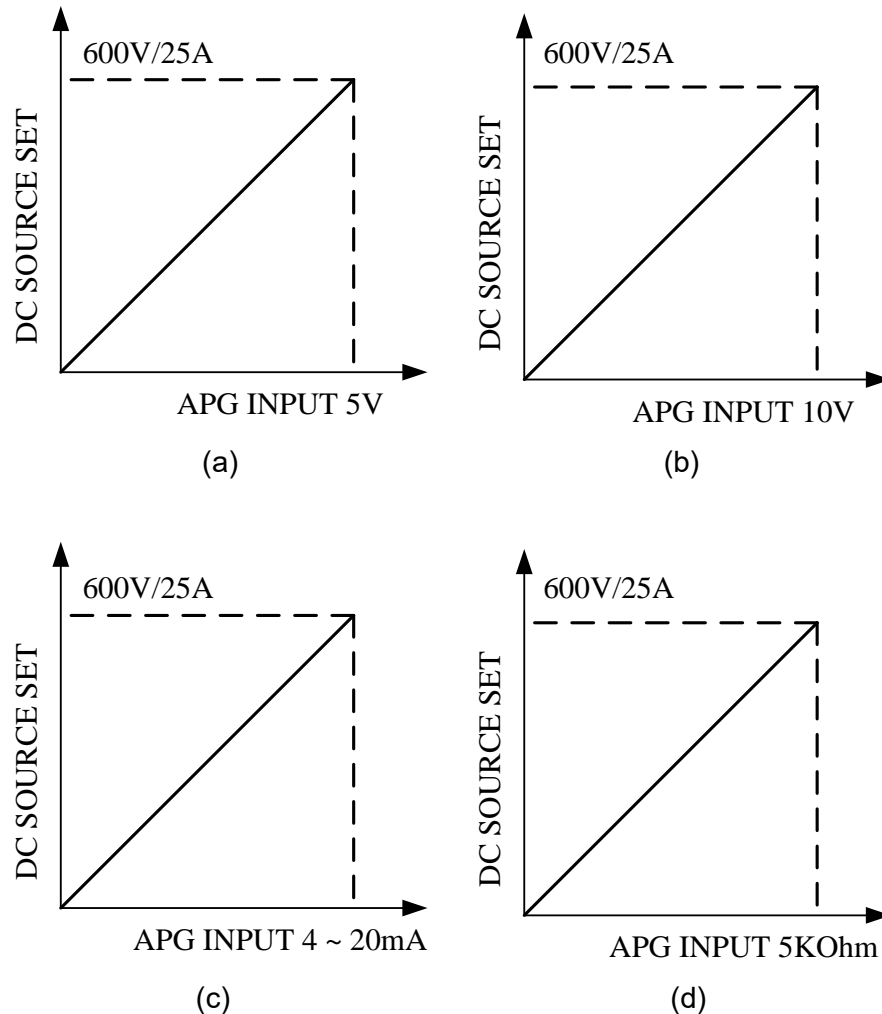

Figure 3-7
- a. When selecting Vref=5V ➡ it means the DC Power Supply's output 0V ~ 600V/0A ~ 25A will map to 0~5V as Figure 3-7(a) shows.
- b. When selecting $V_{ref}=10V$ → it means the DC Power Supply's output $0V \sim 600V/0A \sim 25A$ will map to $0\sim10V$ as Figure 3-7 (b) shows.
- c. When selecting $I_{ref}=4\sim20mA$ → it means the DC Power Supply's output $0V \sim 600V/0A \sim 25A$ will map to $4\sim20mA$ as Figure 3-7 (c) shows.
- d. When selecting $V_{ref}=5K\Omega$ → it means the DC Power Supply's output $0V \sim 600V/0A \sim 25A$ will map to $0\sim5K\Omega$ as Figure 3-7 (d) shows.